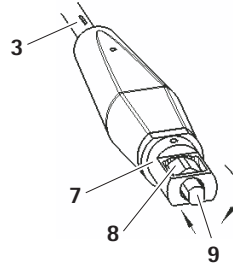

Fig. 5 Inserting the pushing rod
- ▶ Slide pushing rod **9**, with the two flat sides at right angles to the parallel distractor, through nut **8** into sheath **3** as far as it will go, see Fig. 5.